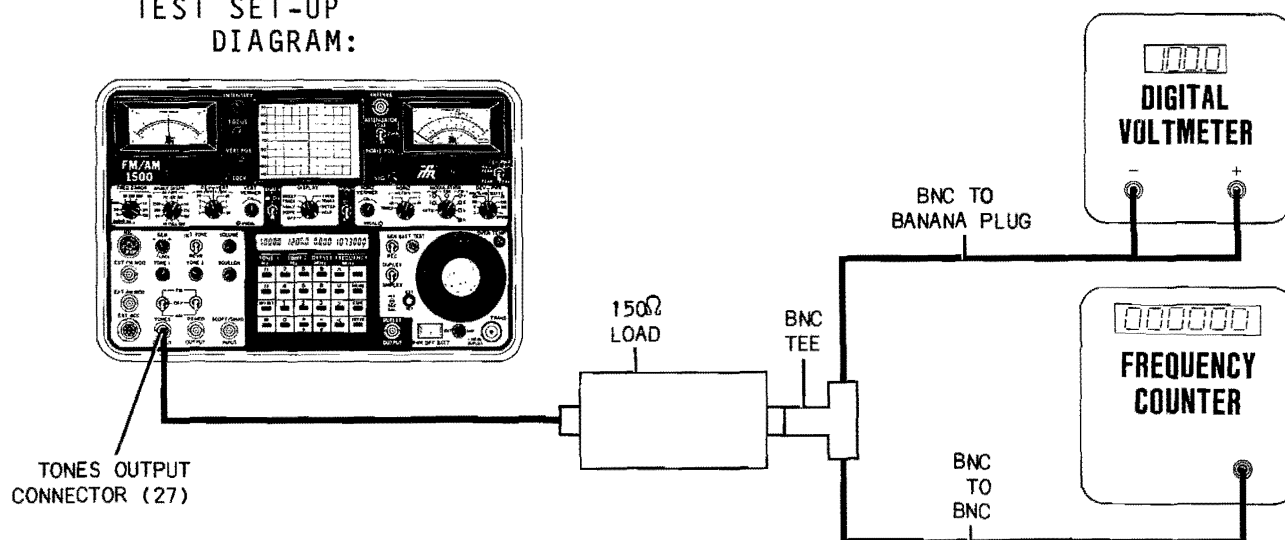

Figure 3-5 Dual Tone Generator Test Set-Up Diagram
1. Connect test equipment to FM/AM-1500 as shown in Figure 3-5.
2. Rotate TONE 1 Control (33) fully cw and verify that low-pitch audio chatter is heard and that CRT (50) displays a stair-step pattern.
3. Repeat Step 2 for TONE 1 Hz settings on LCD (21) of: 0.1, 0.4, 0.8, 1.6 and 3.2 Hz.
4. Rotate DISPLAY Control (51) to "METER".
5. Set TONE 1 Hz on LCD (21) to 6.4 Hz. Verify DVM reads > 2.5 VRMS and that Frequency Counter is within 0.01% of TONE 1 Hz setting on LCD (21). Also verify the digital Demod Count meter on the CRT (50) displays the value of the TONE 1 Hz setting ($\pm 0.1\%$).
6. Rotate TONE 1 Control (33) fully ccw and verify that DVM reads approximately 0 VRMS and Frequency Counter reads 0 Hz.
7. Repeat Steps 5 and 6 for TONE 1 Hz settings on LCD (21) of: 12.8, 25.6, 51.2, 409.5, 409.6, 1000.0, 5000, 9999, 13107 and 20000 Hz.
8. Rotate TONE 1 Control (33) fully ccw. Rotate TONE 2 Control (31) fully cw and repeat Steps 2 thru 7, using TONE 2.